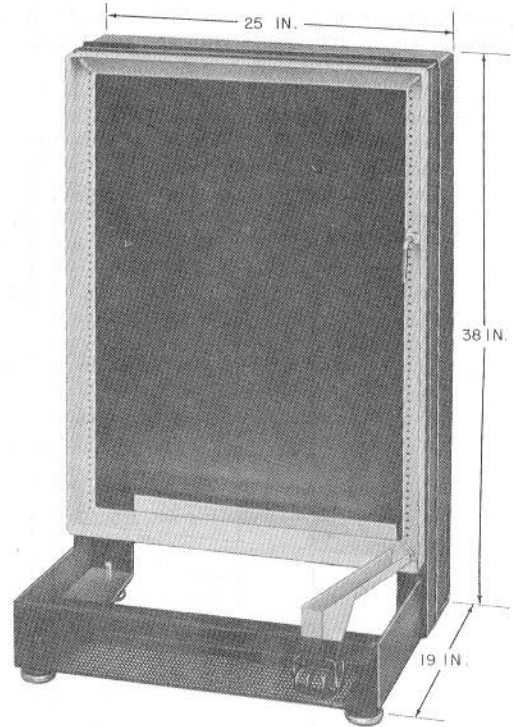

Fig. 18—⚡34C Cabinet⚡
4.09 The 34C cabinet (Fig. 18) is a general use, floor-standing unit consisting of a steel bottom and back and a hinged carrier gate. A caster supports the weight of the gate when it is open. Glides or optional casters (D-180700 Kit of Parts) are attached to the bottom corners of the cabinet for easy moving. The back provides a mounting surface for 100-, 101-, and 102-type connecting units; the gate provides a mounting space for a 2-type power panel and one or two 702- or 703-type panels. With a 154A cover installed, the cabinet is 20 inches wide, 19.6 inches deep, and 39.4 inches high overall.⚡